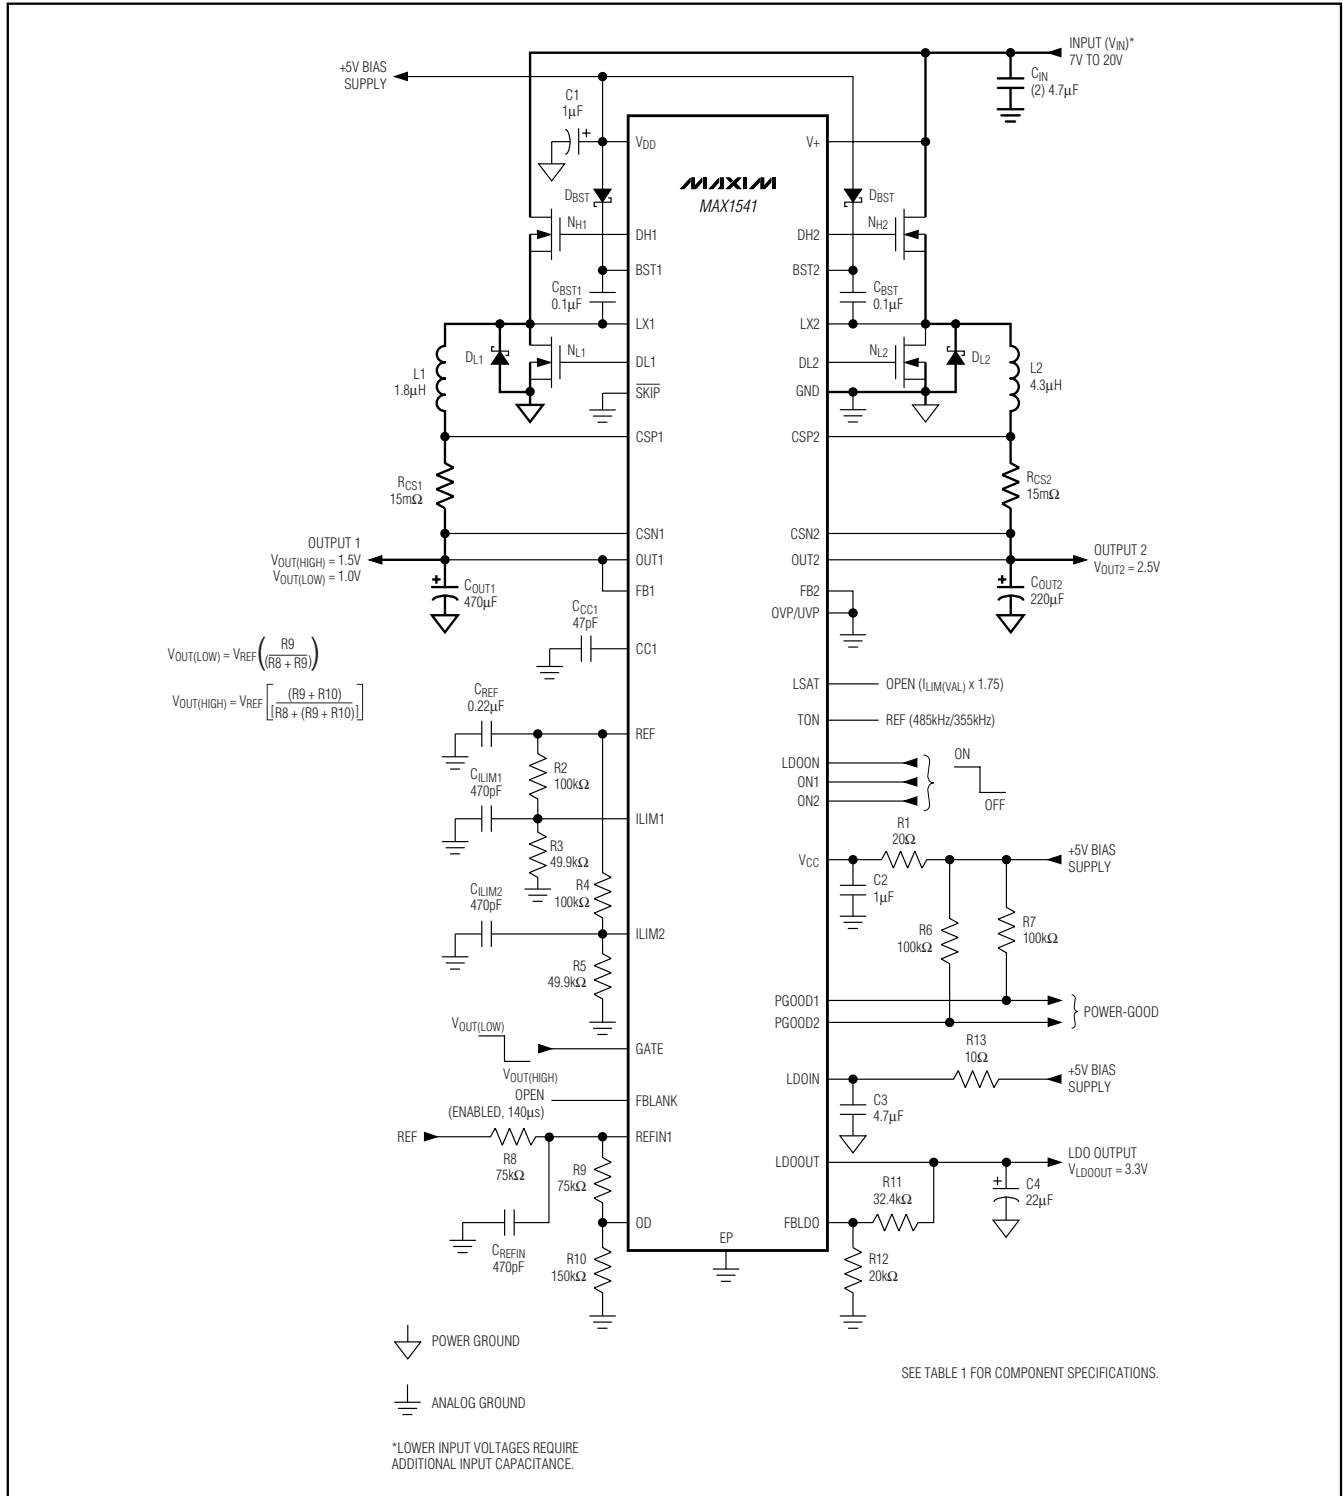

Figure 12. MAX1541 Standard Application Circuit
The MAX1541 regulates FB1 to the voltage set at REFIN1. By changing the voltage at REFIN1, the MAX1541 can be used in applications that require dynamic output-voltage changes between two set points. Figure 12 shows a dynamically adjustable resistive voltage-divider network at REFIN1. Using the GATE signal and open-drain output (OD), a resistor can be switched in and out of the REFIN1 resistor-divider, changing the voltage at REFIN1. A logic high on GATE turns on the internal N-channel MOSFET, forcing OD to a low-impedance state. A logic low on GATE disables the N-channel MOSFET, so OD is high impedance. The two output voltages ( $FB1 = OUT1$ ) are determined by the following equations:
voltage during dynamic transitions. With the additional capacitance, the REFIN1 voltage slews between the two set points with a time constant given by  $R_{EQ} \times C_{REFIN1}$ , where  $R_{EQ}$  is the equivalent parallel resistance seen by the slew capacitor. Looking at Figure 12, the time constant for a positive REFIN1 voltage transition is:
For the MAX1541, the linear regulator supports Dual Mode operation to allow the selection of a 5V output voltage without requiring external components (Figure 1). Connect FBLDO to GND for a fixed 5.0V output. The linear regulator's output voltage can be adjusted from 1.25V to 5.5V using a resistive voltage-divider (Figure 12). The MAX1541 regulates FBLDO to a 1.25V feedback voltage. The adjusted output voltage is: